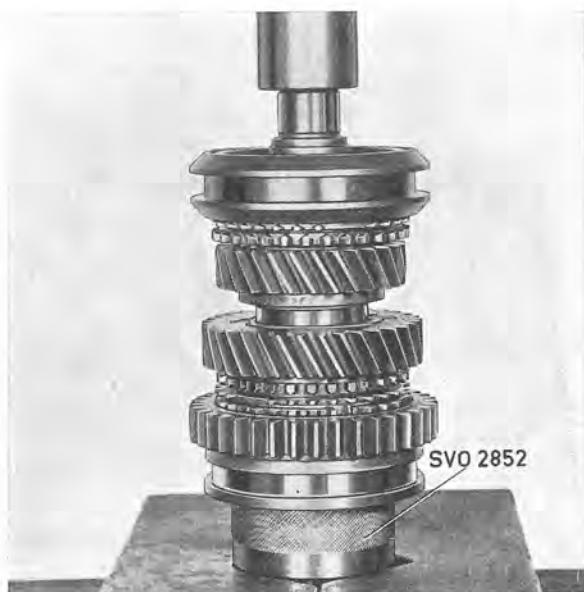

Fig. 4-29. Installing synchronizing
chronizing and the gear wheel. Fit the needle bearing and press in the mainshaft, see Fig. 4-29. When doing this, turn the 3rd speed gear wheel in order to check that this gear as well as the needle bearing fit correctly. Try out a circlip which fills the groove well and fit the circlip.
4. Place 1st-2nd speed synchronizer, synchronizing cone, 2nd speed gear wheel and needle bearing on ring SVO 2852. Make sure that the gear ring on the engaging sleeve comes forwards and that the flanges fit correctly in the grooves of the synchronizing cone. Press in the mainshaft, see Fig. 4-29. When doing this, turn the 2nd speed gear wheel to prevent it from fastening. Try out a circlip which fits well into the groove on the shaft and fit the circlip.